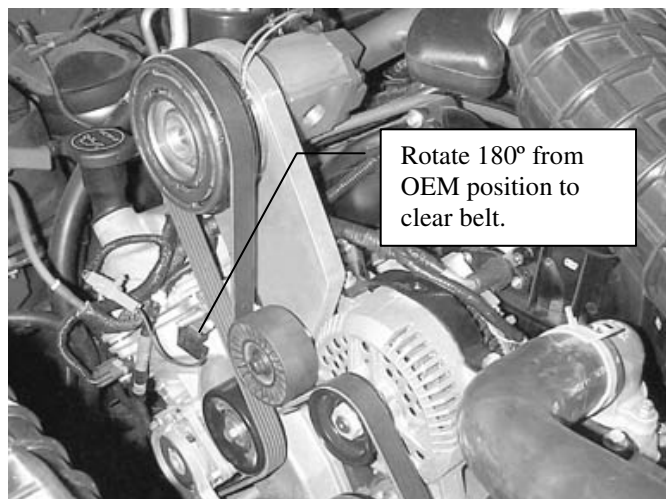

Fig. 6
11. Attach the pump mount bracket (1) to the engine with the OEM stud bolt (6) at Location A and the M8 x 60 (7) bolt at Location B. Torque these bolts to 19-25 ft-lb.
12. Reinstall OEM idler (12) using the OEM bolt in its original location. Torque to 19-25 ft-lb.
13. Install the serpentine pump drive belt (15) per diagram.
14. Replace the wire (14) on the stud bolt (6) rotating it 180 degrees from the OEM position so it points away from the pump bracket so it is not in the belt line. See Fig. 6.